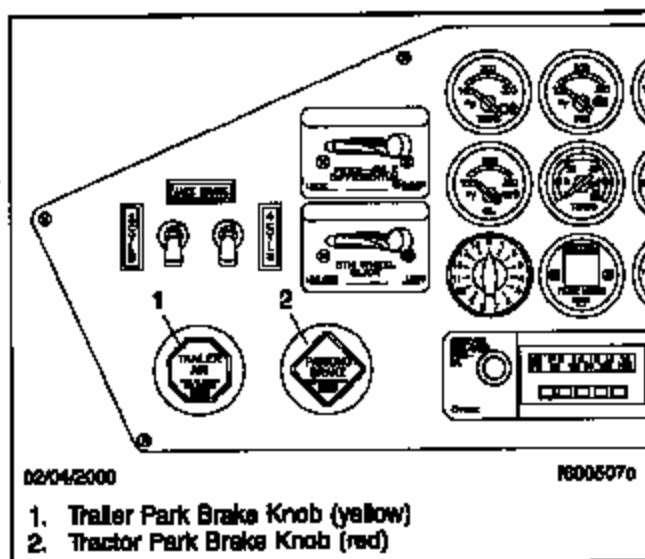

Fig. 4, Center Dash Panel
12. If necessary, install the knobs onto the new valve, as shown in Fig. 4.